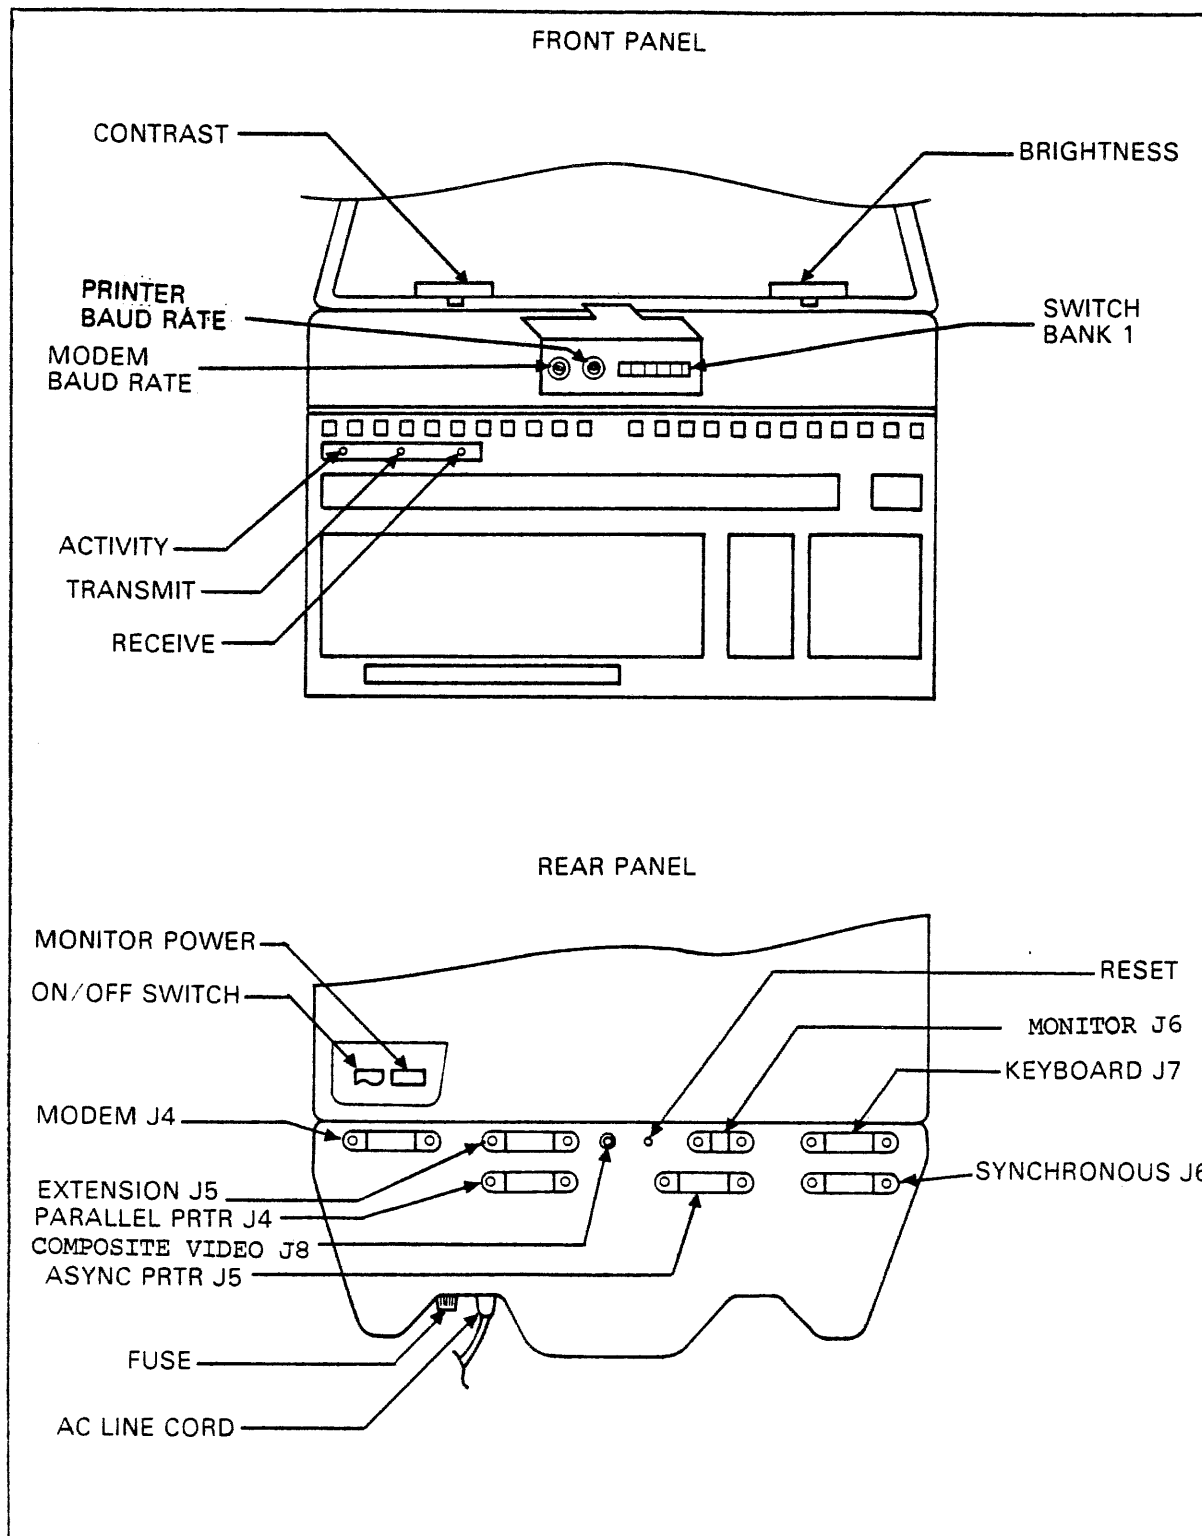

Figure 2-7. Location of ADM-42 Controls and Interface Connectors
2. Check the ON/OFF switch to ensure it is in the OFF position. Refer to figure 2-7 and table 2-1 for rear panel control information.